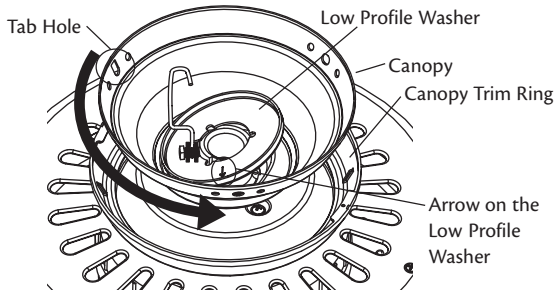

Figure 15 - Assembling canopy for low profile mounting
- Place the canopy trim ring then the canopy over the adapter as shown in Figure 15.
- Place the low profile washer (lip up) into the canopy as shown in Figure 15 fitting the notch in the low profile washer over the adapter set screw and hook.
- Rotate the canopy until the arrow on the low profile washer aligns with the tab hole on the canopy as shown in Figure 15.